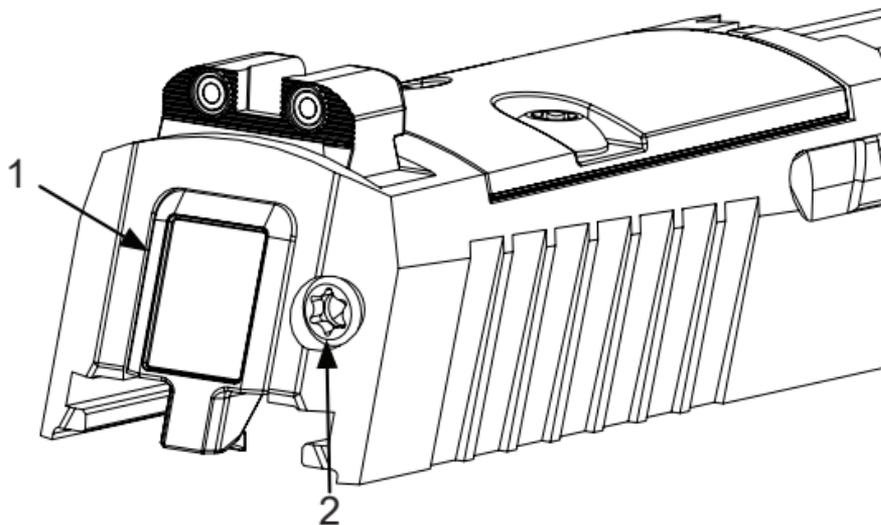

Figure 2. Extractor Plus Pin.
2. Push in extractor plus pin (Figure 2, Item 2) at rear of slide (Figure 2, Item 1).